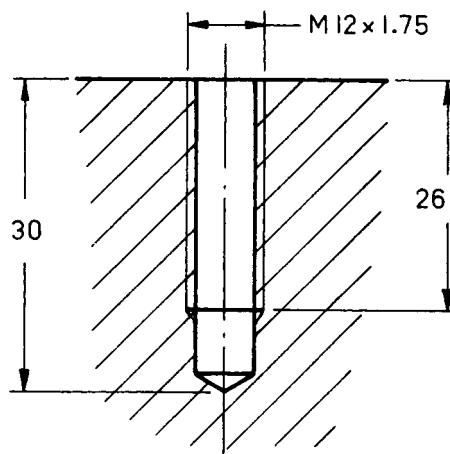

FIG. 3
- (f) Figure 3 shows an internal threaded hole.